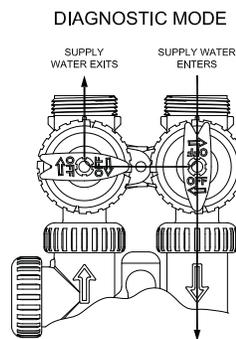

figure 3
3. Diagnostic Position: The inlet handle points in the direction of flow and the outlet handle points to the center of bypass valve, system water pressure is allowed to the control valve and the plumbing system while not allowing water to exit from the control valve to the plumbing. (see figure 3)
If using optional bypass **SLOWLY** turn bypass valve to **DIAGNOSTIC** position (See figure 3 on page 4) or slowly open inlet valve to allow water to slowly enter the Conditioner.